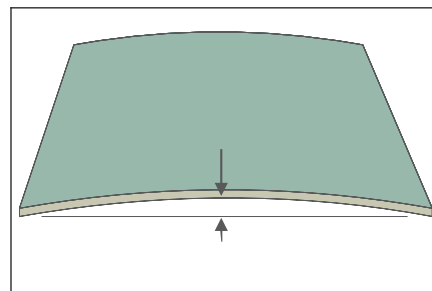

Figure 1 Check edge deflection for maximum warp.
1. Check the deflection to determine if rework is needed. (See Figure 1.)